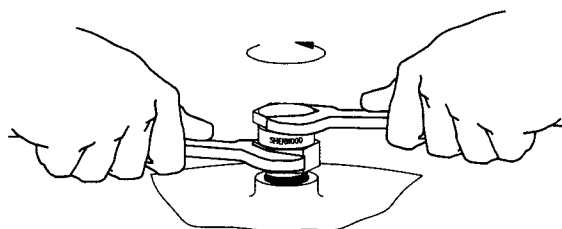

Figure 2
1. Loosen the cap of the Checkmate using two wrenches; one to prevent the Checkmate™ from turning while the other loosens the cap by turning counterclockwise as shown in Figure 2. Do not loosen the cap fully. A bleed hole in the cap allows for a small accumulation of liquid and gas to escape.